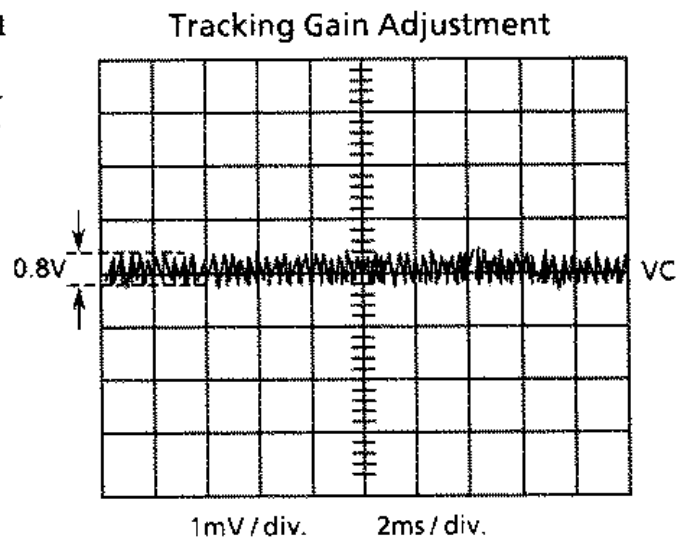

Fig. 2
1. Connect an oscilloscope to TP 501 pin4(TE) and TP 501 pin8 ( VC ).
3. Adjust R524 (T.GAIN ADJ.) so that the correct waveform as shown in figure 2 is obtain.